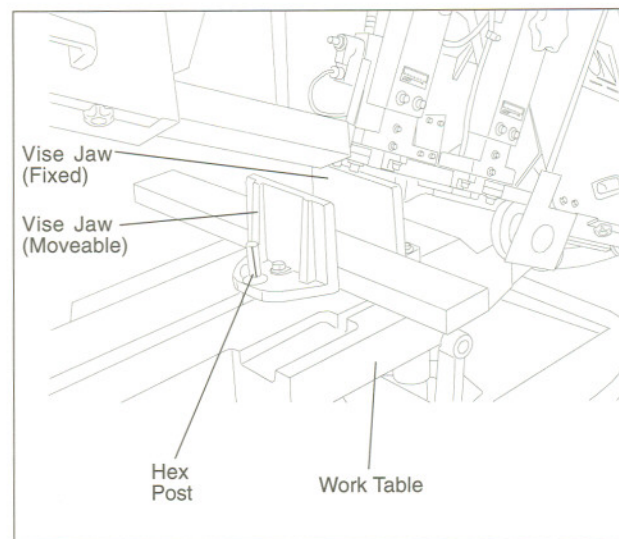

Figure 9: Securing the Workpiece
- Place work piece against fixed jaw (refer to Figure 9).
## Adjusting the Vise for Angle Cuts (see figure 9)
- Turn the locking handle on the round, angle-setting block counterclockwise to unlock the block. Slide the block until the pointer on the block is aligned with desired angle (see figure 9). Tighten the locking handle to set the angle.